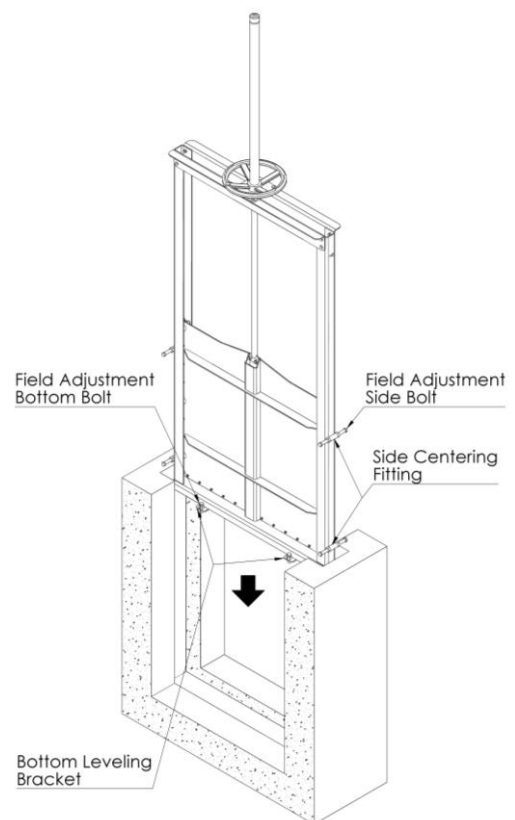

Figure 1
- Position and center the channel gate in the recess of the wall, using the field adjustment bolts screwed in the "Side Centering Fittings" and "Bottom Leveling Brackets" (see Figure 1). Make sure that the channel gate is centered in the channel.